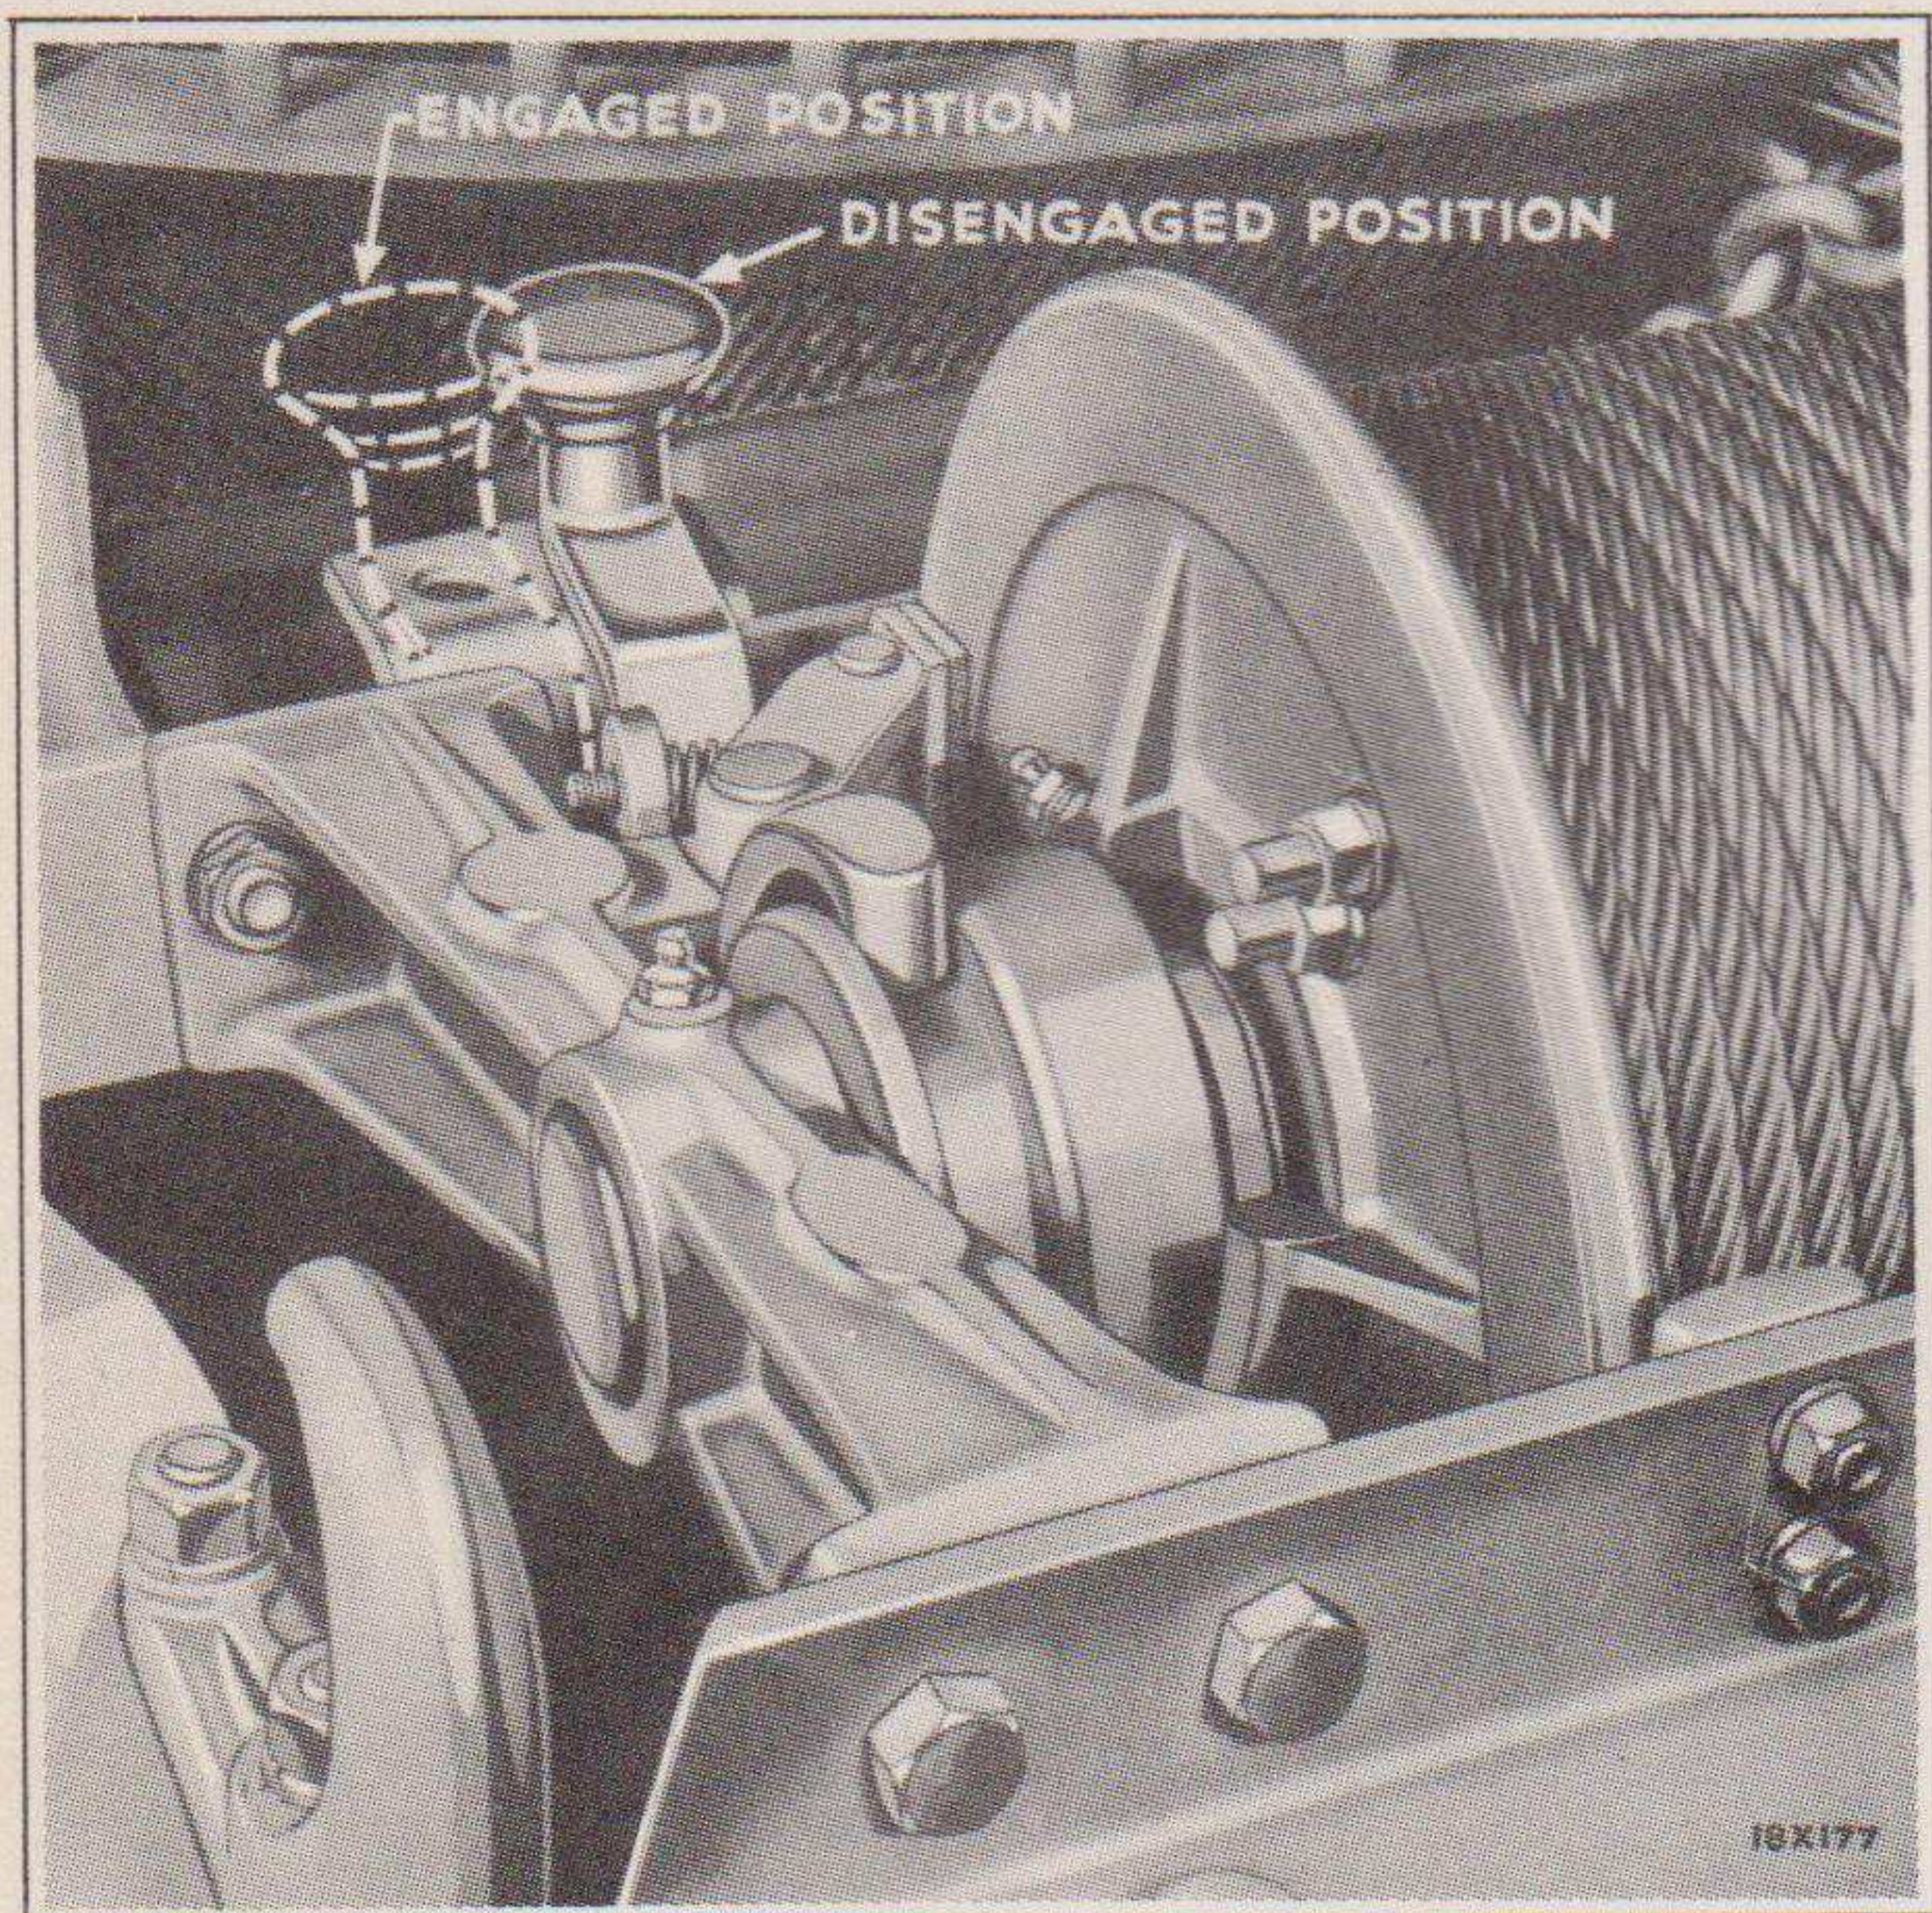
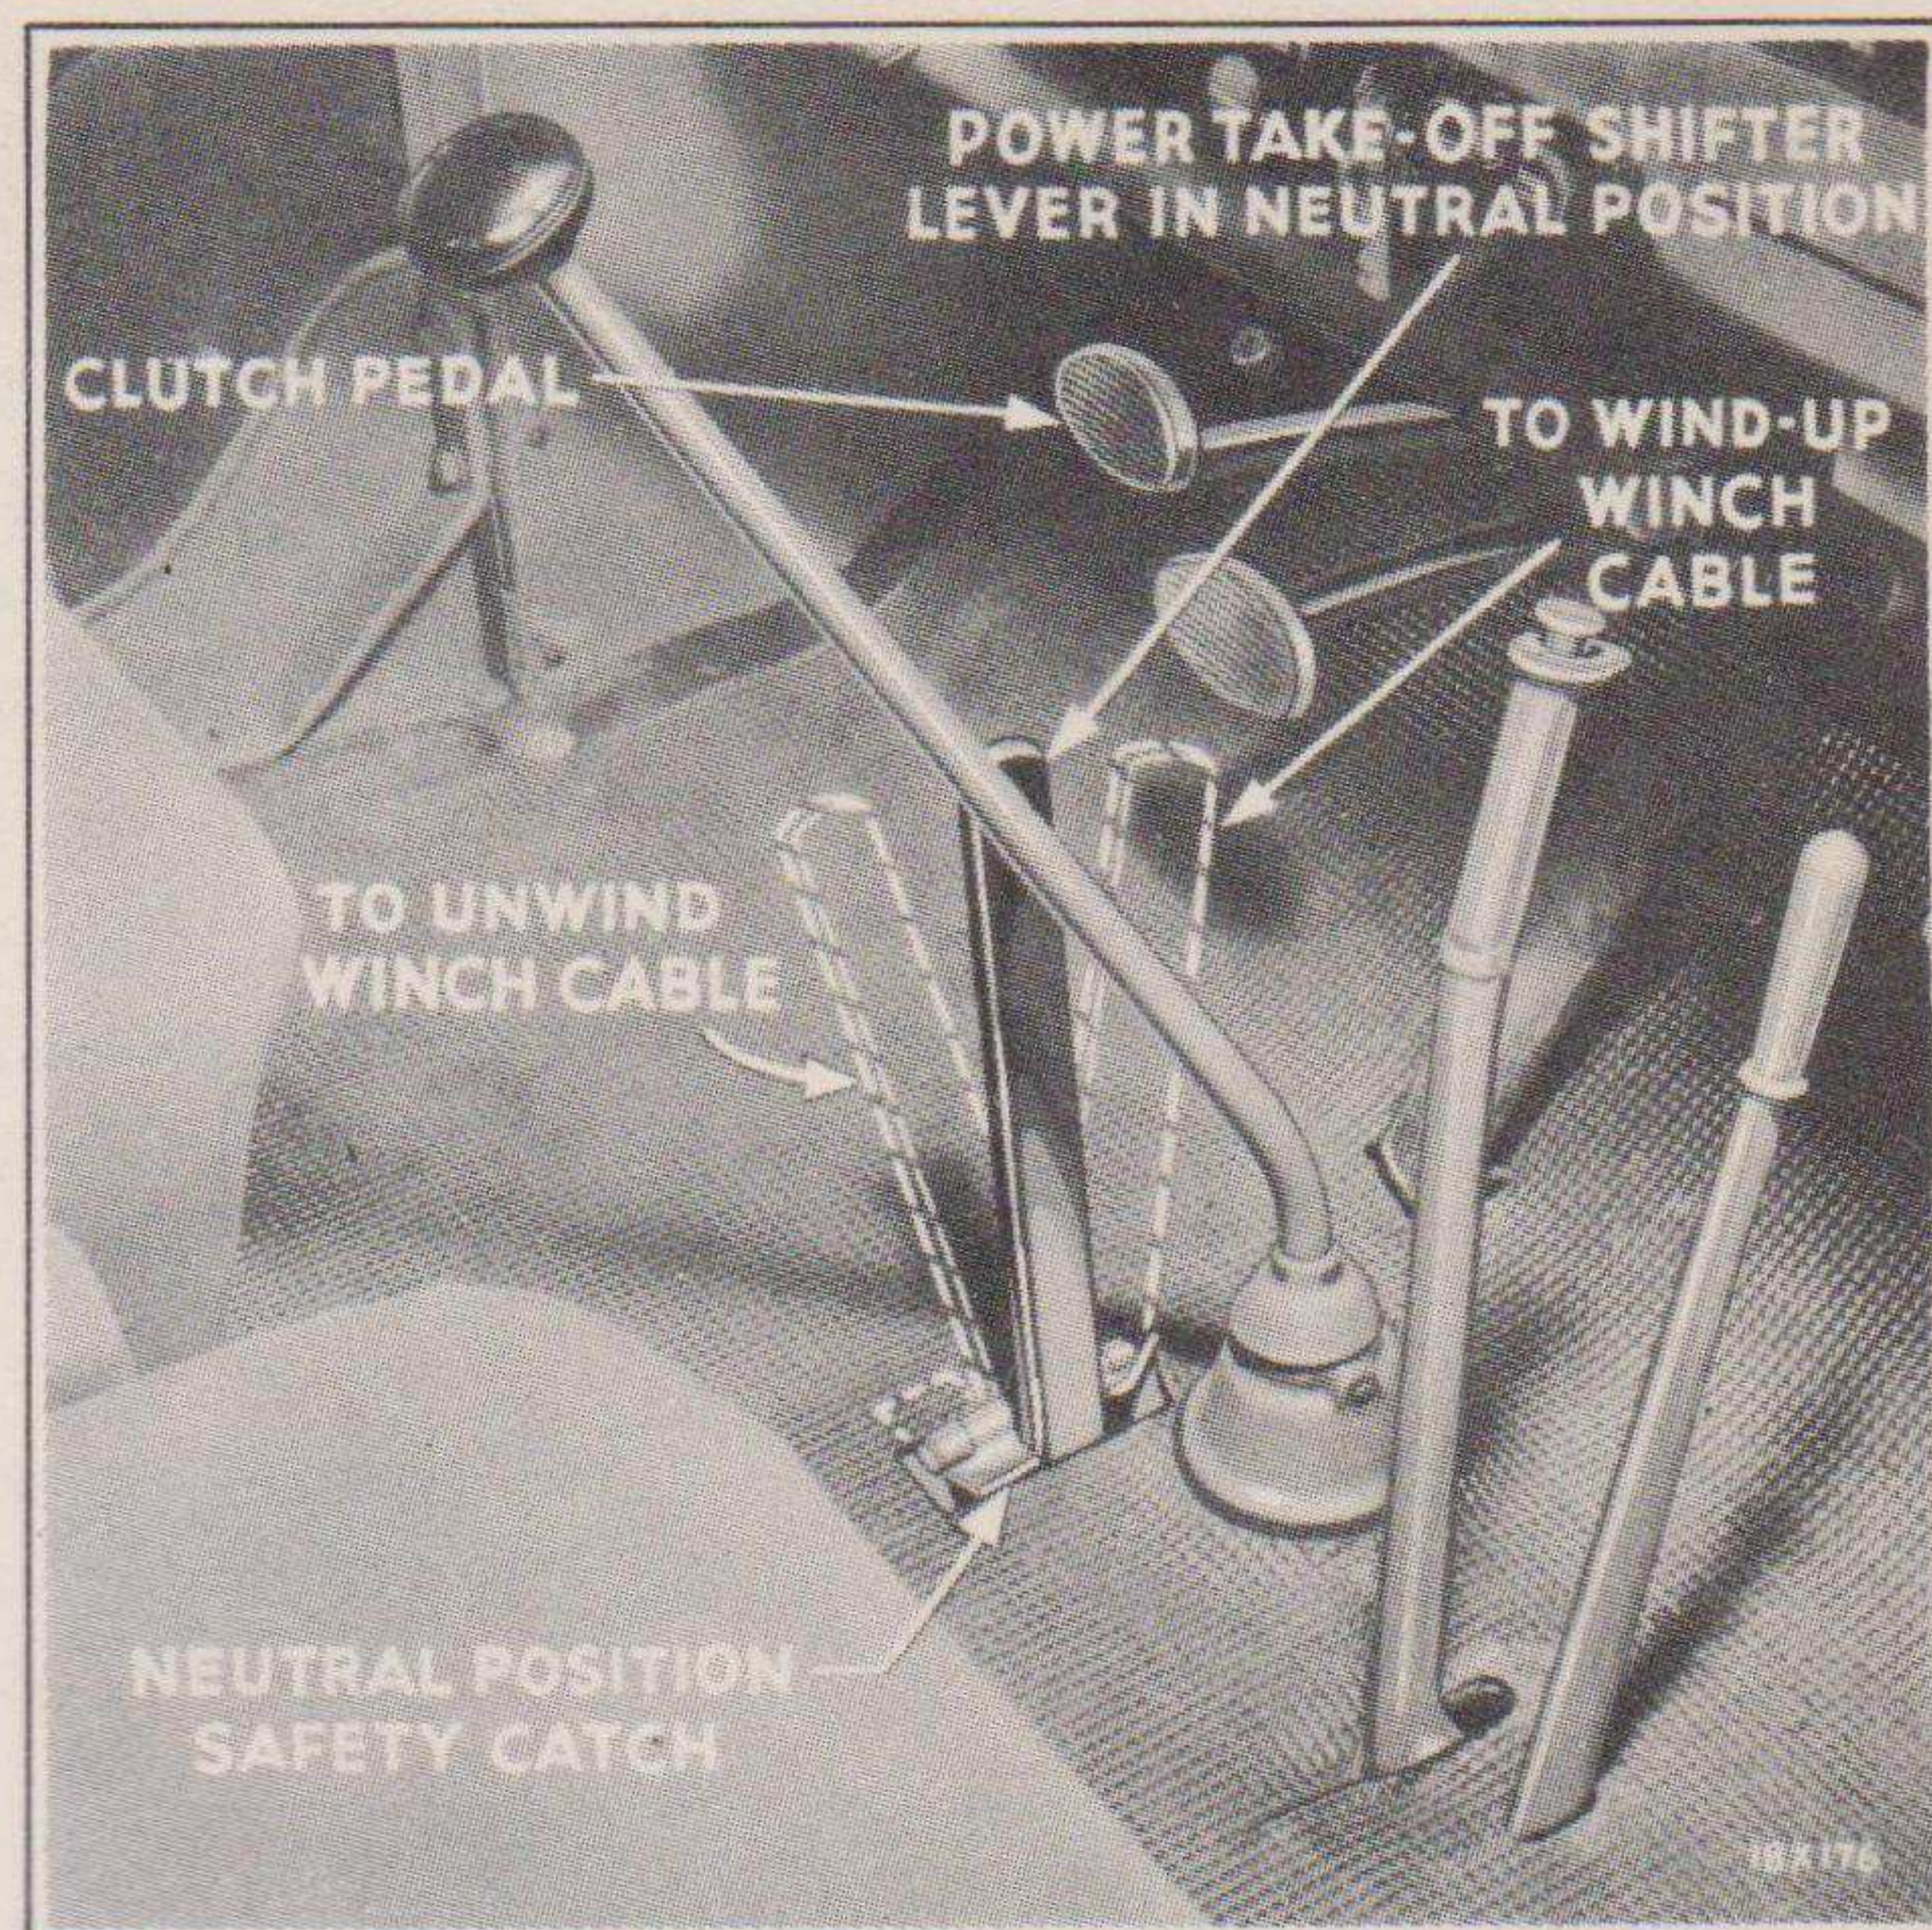

Fig. 6—Winch Clutch Shifter Fork Handle Positions
Fig. 5—Power Take-off Shifter Lever in Front Compartment
**To Hook On:** Disengage the clutch shifter fork handle at the winch by means of the short hand lever illustrated in Fig. 6 and pull out the cable. (If cable is under a strain depress truck clutch pedal and move power take-off shifter lever to rear position after lifting safety catch on floor board, and use engine power to relieve strain on cable.)
**To Pull:** Engage clutch shifter fork as illustrated in Fig. 6 and depress truck clutch pedal, shift control lever to forward position (Fig. 5), after lifting safety catch on floor board. Then release truck clutch pedal.
**To Unwind Cable:** Depress truck clutch pedal, lift safety catch on floor board, shift control lever to rear position as illustrated in Fig. 5 and release truck clutch pedal.
The winch on the front of trucks so equipped operates by power from the truck engine. This power is transmitted through the truck transmission into a power take-off control unit, mounted on the side of the transmission. This control unit can be shifted by the lever illustrated in Fig. 5 from neutral position to wind-up or unwind the cable *when the truck clutch pedal is depressed*. Power is transmitted to the winch (from the control unit) through a propeller shaft having two universal joints, one at each end of the shaft.